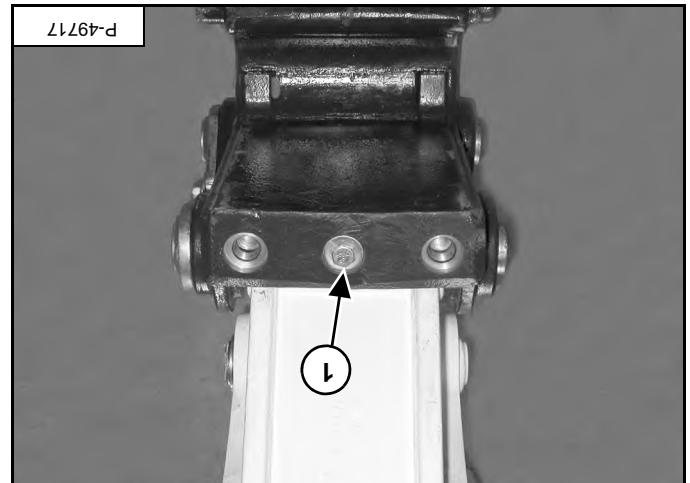

Figure 82
Install the bolt (item 1) [Figure 82] and washer through the X-change sand into the pin.